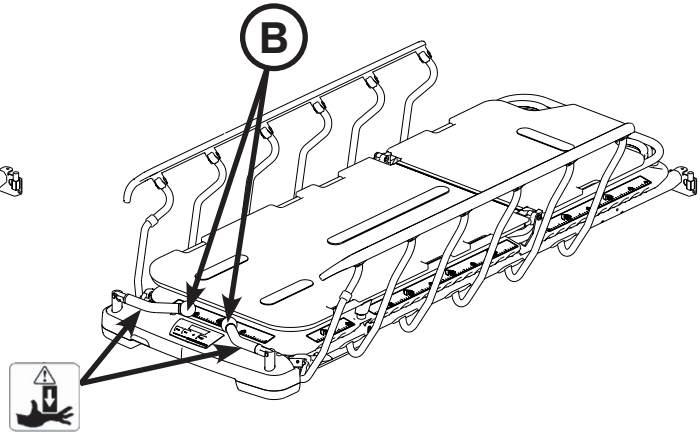

Figure 10.2: Foot End Push Handles Stored
To store the push handles, lift the handles (B) up and pivot them down to store in the handle rests (Figure 10.2).